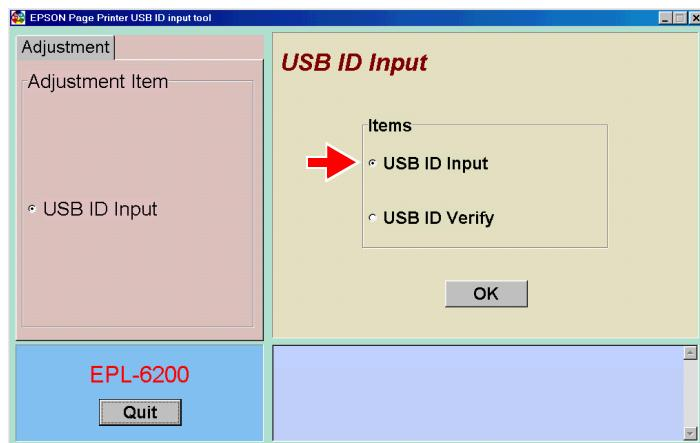

Figure 5-2. USB ID Select Screen
3. When the window as shown in Figure 5-2 is displayed, check “USB ID input” and click the OK button.